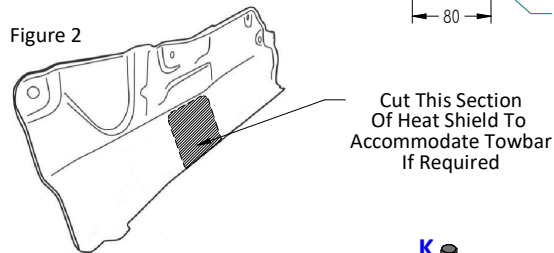

Figure 3
7. **A4/A5 F2 (FU) 2025>** Remove the **GSM** sensor bracket, two fixings from the body on the offside to gain clearance to the impact beam's bolts.
8. Remove the rear impact beam, seven fixings. **Note: This is not refitted with the Towbar assembly. Replace the fixings into rear panel and as per Figure 3** replace the offside upper inner fixing into the rear panel using item **H** with items **L** to prevent water ingress. Refit the **GSM** sensor bracket.